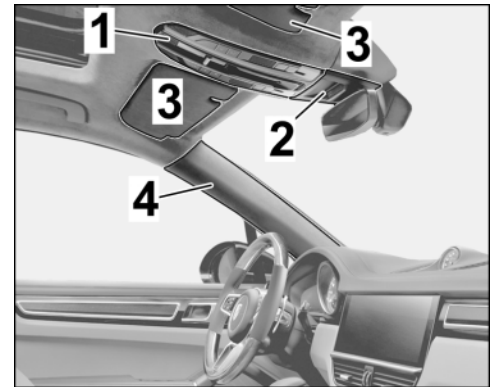

Figure 3
1.3 Expose front roof/(interior) rear-view mirror area (⇒ *Figure 3*)